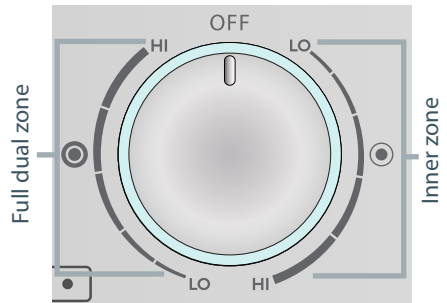

Fig.10 Dual cooking zone control
- When using dual cooking zones, you may choose to use the inner zone only (●) or the full dual cooking zone (⊙). See Fig. 10 below.